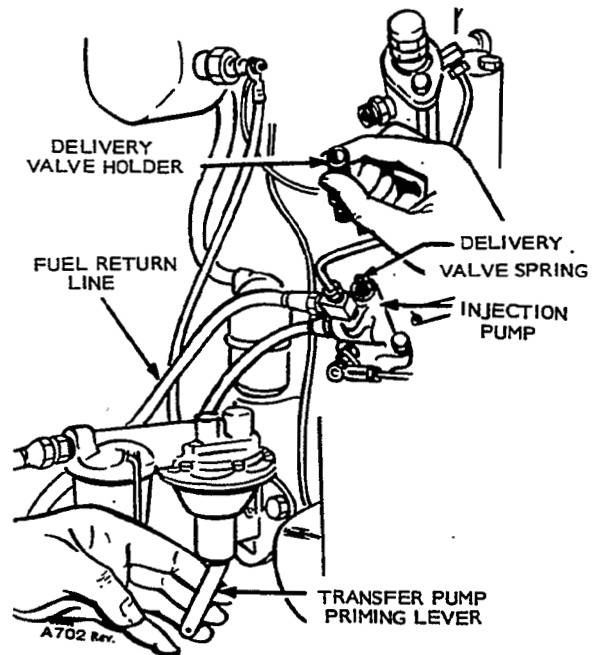

FIGURE 40. LOOSENING DELIVERY VALVE HOLDER
2. Loosen the delivery valve holder to relieve pressure on spring. See Figure 40.
3. Rotate the flywheel to about 15 degrees before the port closing (PC) point. Blow in the pump inlet and rotate the flywheel slowly clockwise until air stops coming out of the pump outlet. This is the port closing point.